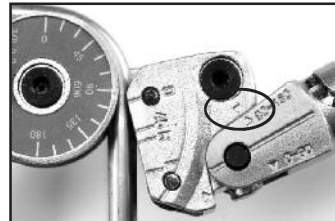

Figure 13 – Rotate Handle
2. Rotate the handle around the Carriage until the 90~180° triangle mark on the Handle aligns with the triangle mark on the Carriage (Figure 13).